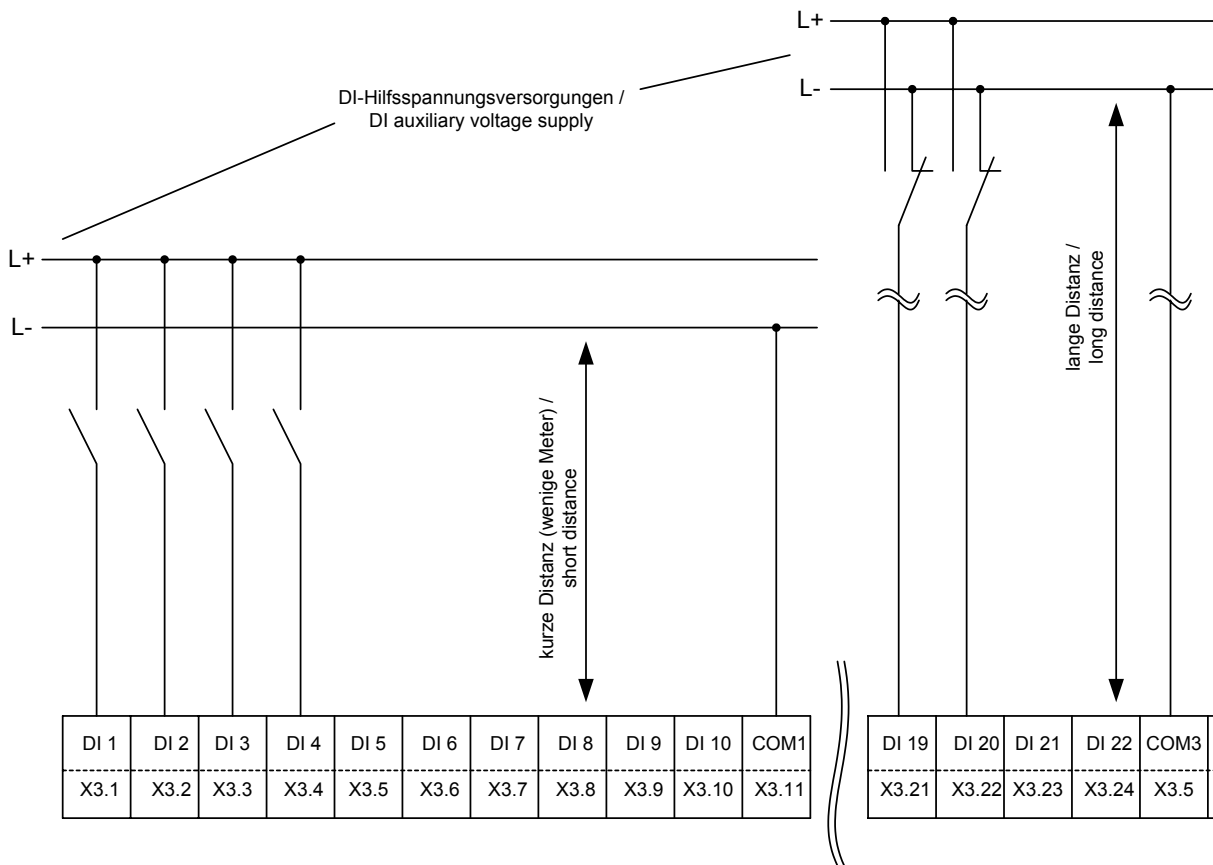

Figure 2.22: Connection of the digital inputs of a group
- The contacts for signals to the digital inputs must be available as changeover contact (periphery) so that in the unswitched state the normally closed contact conducts the signal line to the same potential as that of the common return wire (see fig. 2.22). Thereby the arising antenna effect will be eliminated.